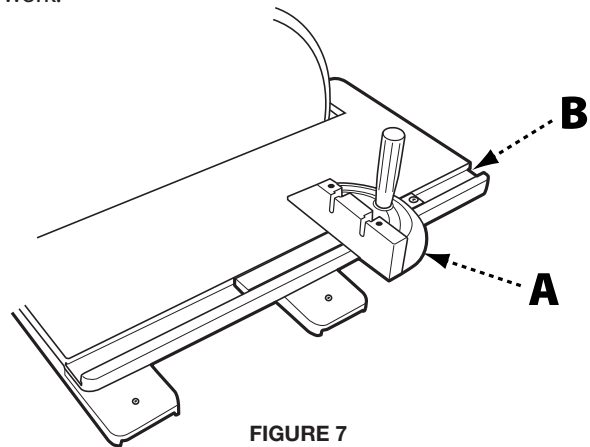

FIGURE 7
The majority of work performed on the DELTA® 12" Disc Sander is usually accomplished using the table as a support. For accurate sanding of angled and end-grain surfaces, as shown in Figure 7, your disc sander comes with an adjustable miter gauge (A) and 3/8" x 3/4" t-slot (B) machined into the table. To use the provided miter gauge for angled or end-grain sanding, do the following: